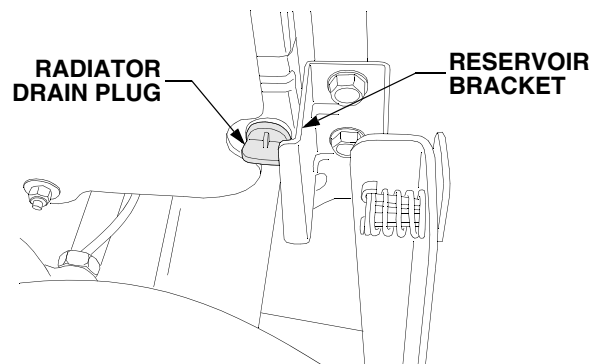

Figure 54
- Locate the radiator drain plug in the lower *right* rear corner of the radiator. See Figure 54.